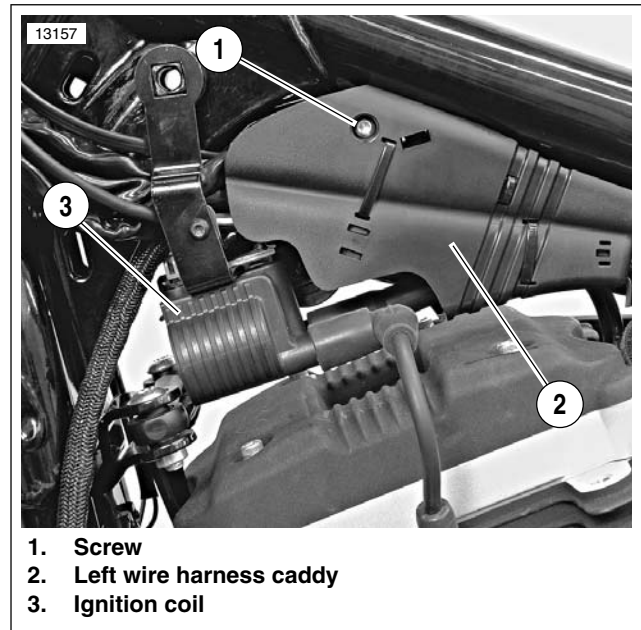

Figure 7-8. Ignition Coil and Left Wire Harness Caddy
5. See Figure 7-8. Remove screw (1) securing left wire harness caddy (2) to right wire harness caddy. See WIRE HARNESS CADDY under 7.38 ELECTRICAL CADDIES. Carefully disengage left wire harness caddy and pull away from frame backbone.
6. See Figure 7-8. Mate left wire harness caddy (2) to right wire harness caddy. Secure with screw (1) and tighten. See WIRE HARNESS CADDY under 7.38 ELECTRICAL CADDIES.